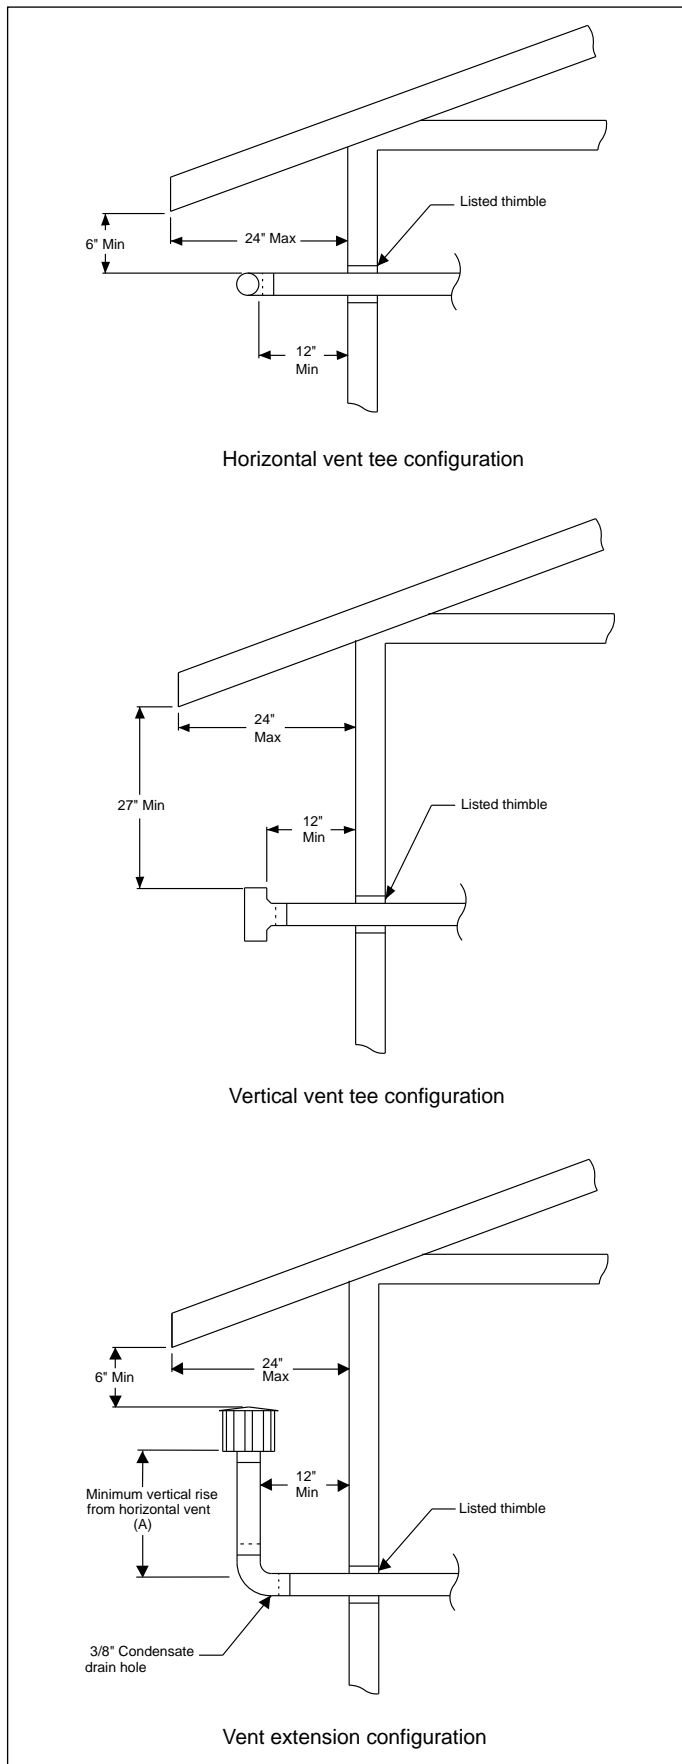

Figure 3.2
4. When vented horizontally, maintain a 1/4" per foot rise away from the heater. Place a drain tee and clean out near the vent connector. See Figures 2.1 and 3.3. Where local authorities have jurisdiction, a 1/4" per foot downward slope is acceptable. The Condensate is allowed to drip out of the end when using a TEE terminal. See Figure 3.2. When using a vent cap with an extension, a 3/8" diameter hole is drilled in the low point of the vent by the installer exterior to the space to allow condensation drainage. See Figure 3.4.